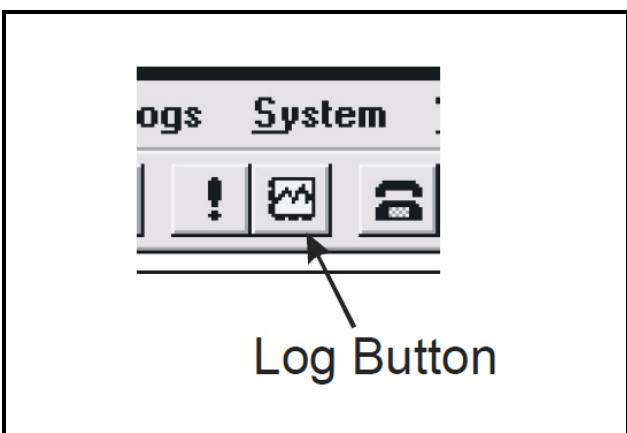

Figure 6-2 Log Icon in Command Line
If Collect is chosen, the tree view will list available logs to view. To view the logs, click in the Check Boxes the graphs you want to view and click on the Log Button in the command line (see *Figure 6-2*).
4. Click on the Graph Icon in the command line (see *Figure 6-2*).